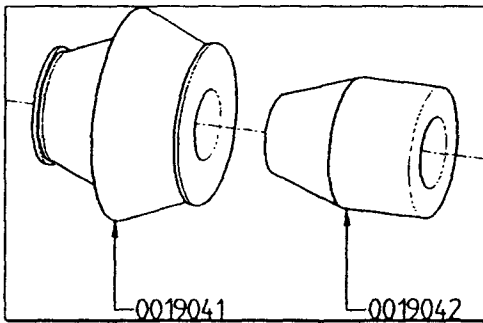

Fig.7
**#14020592 Car cone kit (Fig.7).**